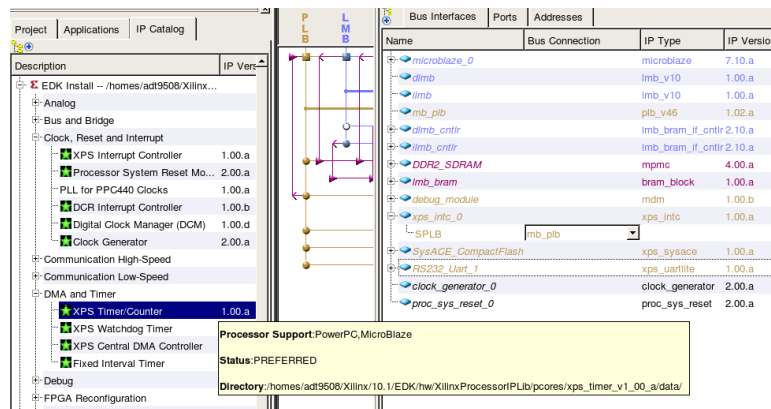

Figure 6: XPS Timer/Counter
- (h) Click on the 'IP Catalog' tab in the XPS window and expand the 'DMA and Timer' category. Right click on the 'XPS Timer/Counter' peripheral to add a timer to your microprocessor system as shown in Figure 6.